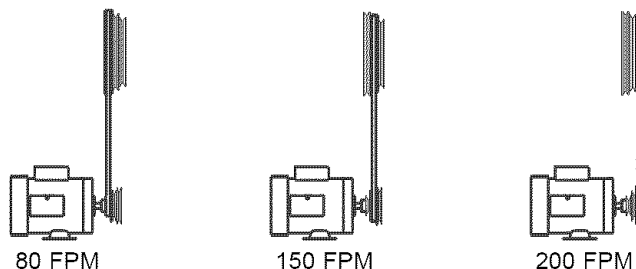

Figure 6 - Blade Speeds
Refer to Figure 6.
- To change blade speed, position V-belt in proper configuration (see Figure 6). Reposition and tension V-belt as described in the next section.
Refer to Figures 6, 7 and 11.
- To change blade speed loosen motor mount plate (Figure 7, Key No. 9) by loosening knob (Figure 7, Key No. 14). Position V-belt on motor and idler pulleys as required. See Figure 6, Blade Speeds, for recommended pulley and belt settings.